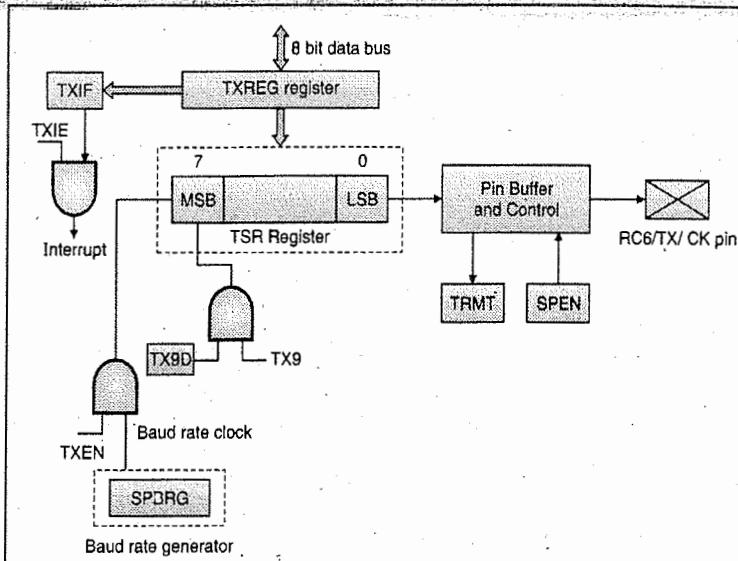
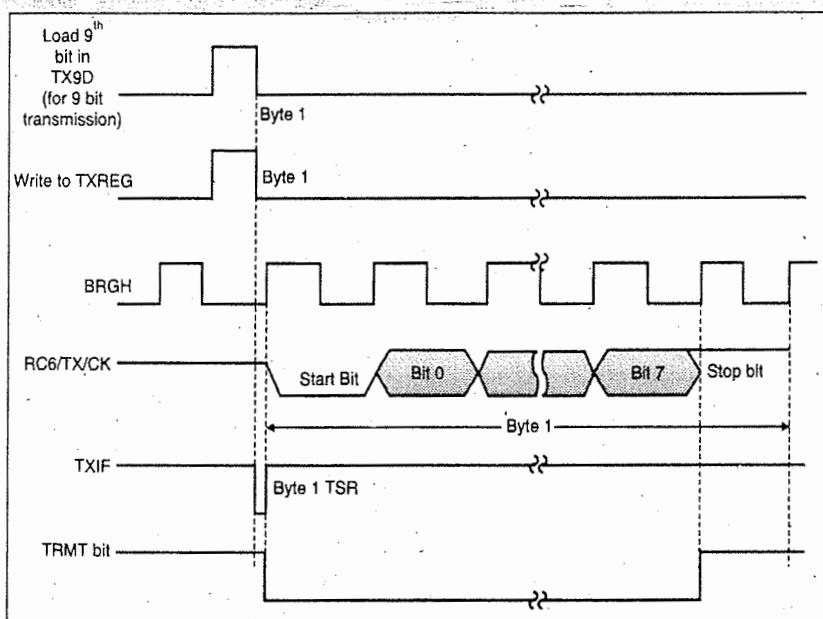

Fig. 12.15.1 : Block diagram of UART transmitter
Fig. 12.15.2 : Timing diagram for 8/9 bit transmission in asynchronous mode
- Fig 12.15.1 shows block diagram the USART transmitter and Fig 12.15.2 shows the USART receiver. Both these sections are functionally independent. However they have same baud rates and employ the same data format.
- Fig. 12.15.1 shows the block diagram of UART transmitter.
Fig. 12.15.2 shows the timing diagram for 8 or 9 bit transmission in asynchronous mode.